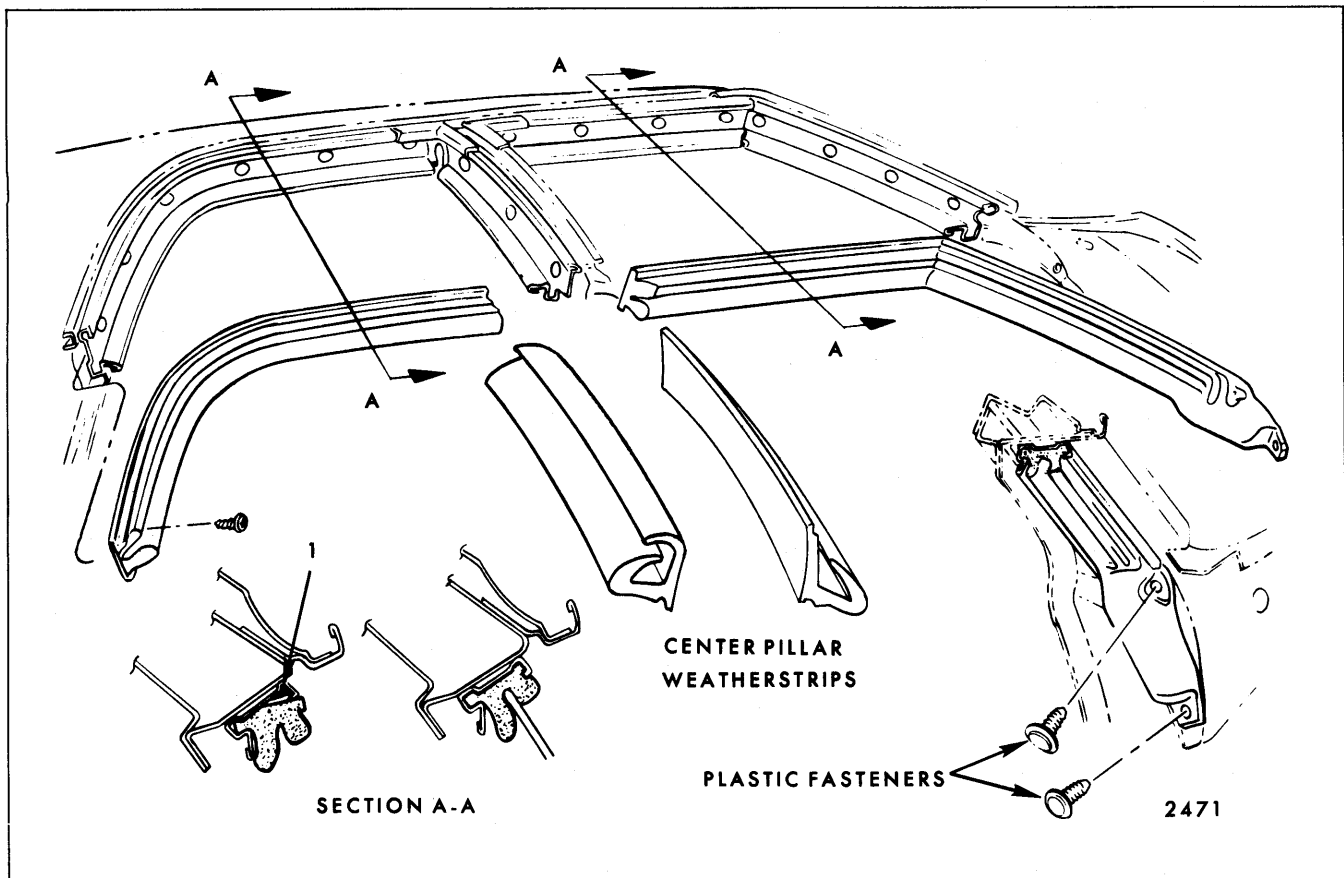

Fig. 6-9—Side Roof Rail and Center Pillar Weatherstrips - "C-69" Styles
1. Remove plastic fasteners at front of weatherstrip similar to those shown in Figure 6-9.